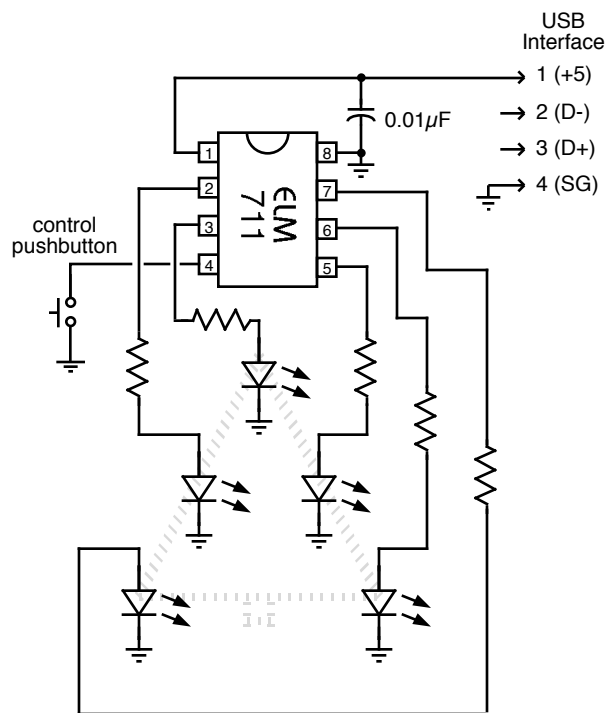

Figure 4. A Small USB Christmas Tree
This is not to say that driving only one or two LEDs is not possible. In fact, a small USB powered 'Christmas Tree' is easily made with only a few components, as we show in Figure 4 on the top of the next page.
The circuit of Figure 4 uses the 5 volts available on a USB connector for power. Simply use a USB cable and only connect the 5V (+5) and common (SG) wires. A filter capacitor is recommended, and is shown across the supply. We show five LEDs, one connected to each control pin with resistors connected in series. The resistor values should be chosen based on desired brightness (current), and the colour of LED used, but will typically be about 1 kΩ.